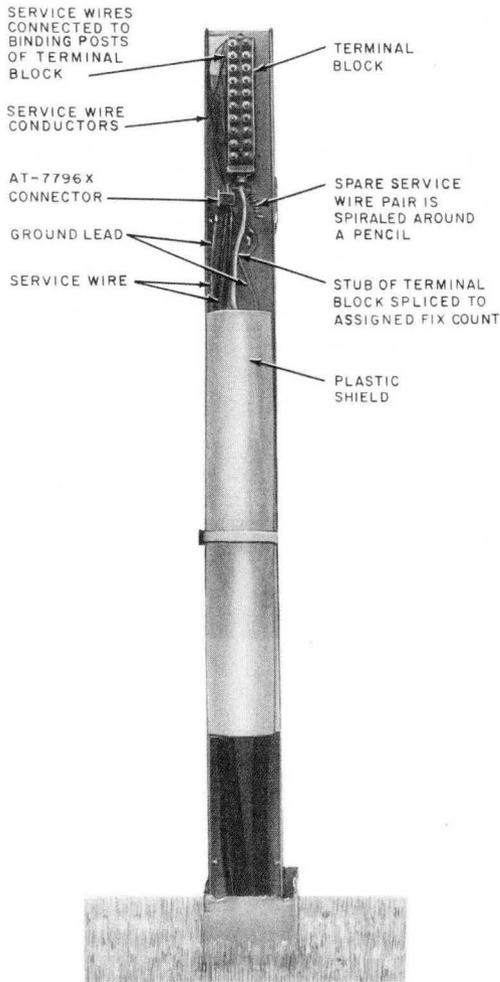

Fig. 8—Service Wires Terminated in RC4/72 Cable Closure
4.02 Where *fixed count* or *preferred count* termination is desired, run the service wire to the assigned binding post of the terminal block as shown in Fig. 8.